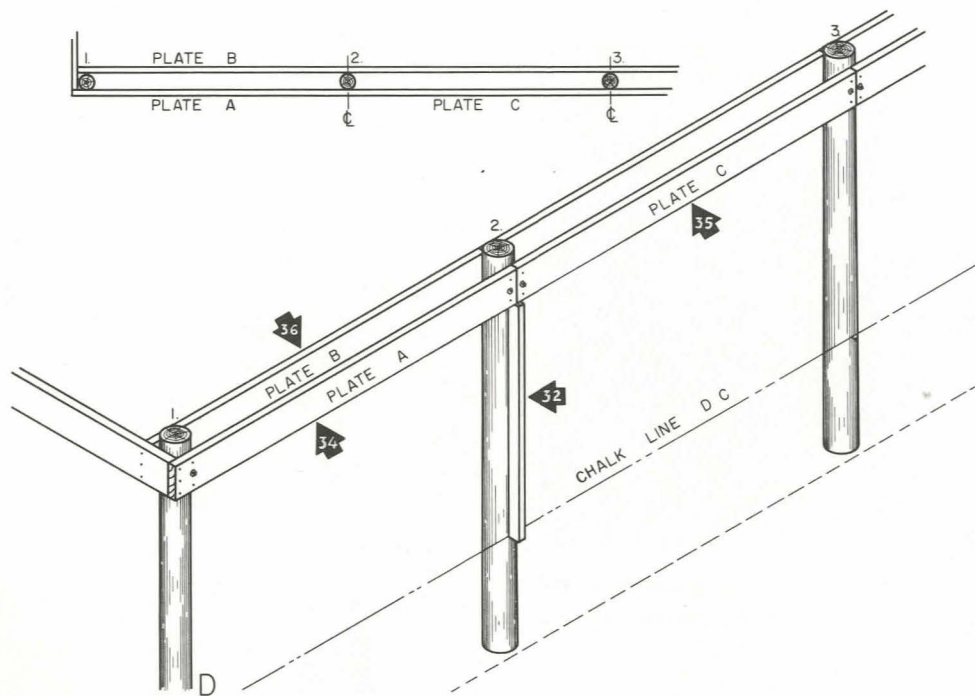

Fig. 8.
32. From the plan, determine the distance from level points on poles to the bottom of plates. Cut a 2 by 4 to this dimension to use as a measuring stick. Use it to measure exact plate height (see Fig. 8).